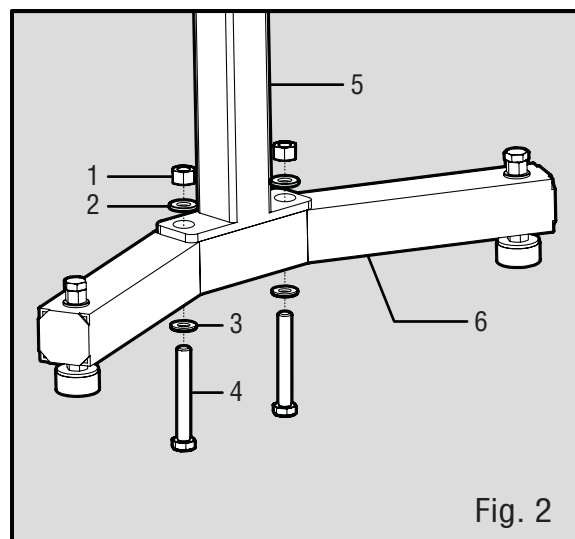

Fig. 2
ATTACHING BASE TO COLUMN (FIG. 2)
1. Locate one base (Fig. 2 - 6) and one column (Fig. 2 - 5).
2. Install two M10 washers (Fig. 2 - 3) and two M10x80 hex bolts (Fig. 2 - 4) through the column's lower flange and into the base.
3. Add two M10 washers (Fig. 2 - 2) and two M10 hex nuts (Fig. 2 - 1) to the bolts underneath the base, to secure the column in place.